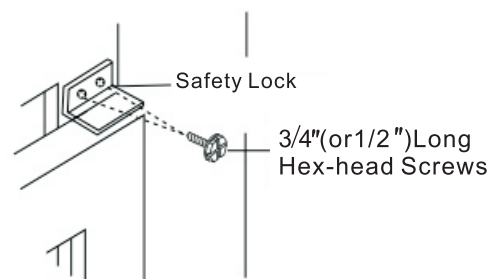

Fig.19
- Attach right angle safety lock (Fig. 19).